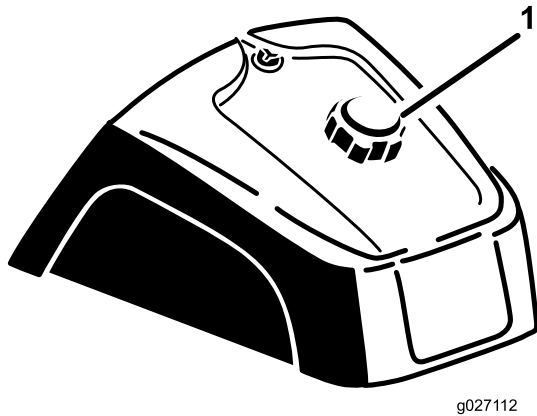

Figure 15
1. Clean the area around the fuel-tank cap (Figure 15).